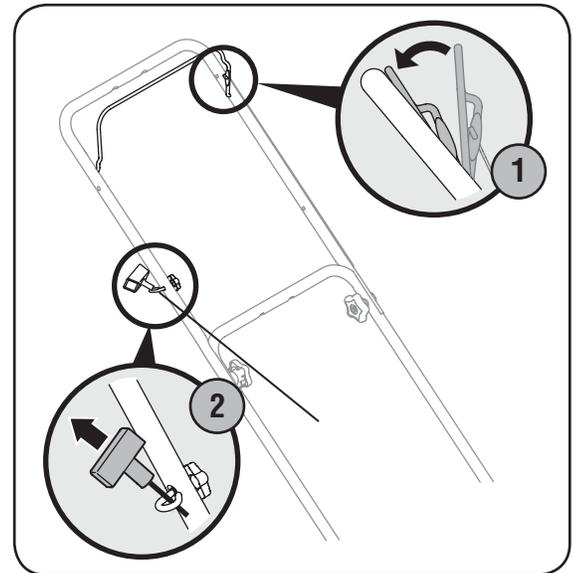

Figure 3-4
2. Pull the starter grip lightly until resistance is felt, then pull rapidly to overcome compression, prevent kickback and start engine. Repeat if necessary. See Figure 3-4.
1. Release the blade control handle. See Figure 3-4.